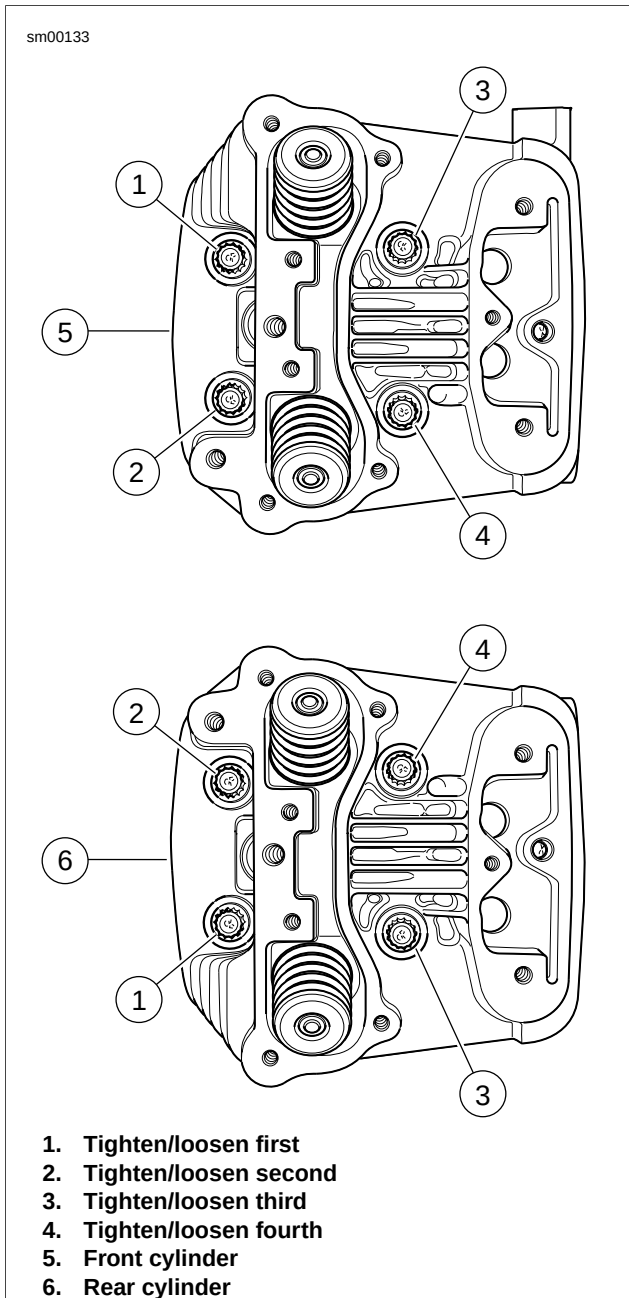

Figure 3-67. Head Screw Loosening/Tightening Sequence
6. See Figure 3-67. For each cylinder head, start with screw numbered one, as shown. In increasing numerical sequence (i.e. - 1, 2, 3 and 4):
- d. Using the marks as a guide, turn each bolt 1/4 turn or 90 degrees. Be sure to tighten the cylinder head bolts in the sequence shown in Figure 3-67.